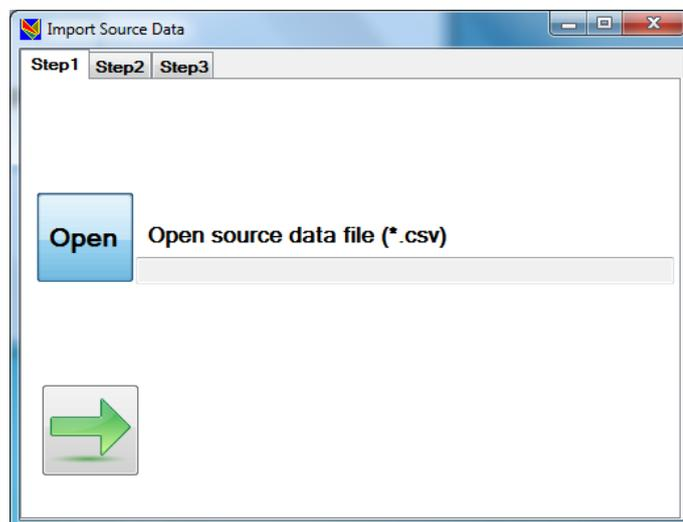

Figure 18 Opening a .csv source data file at step 1 of the data import process
Step 3. In the **Import Source Data** window, click **Open** button. In the **Open** dialog box, select your source data prepared as .csv file and click **Open** (Figure 18). The preparation of source data as a .csv file is described in section 5.
Step 4. In the Import Source Data window, click the **Next** button (Right Arrow on Figure 18).